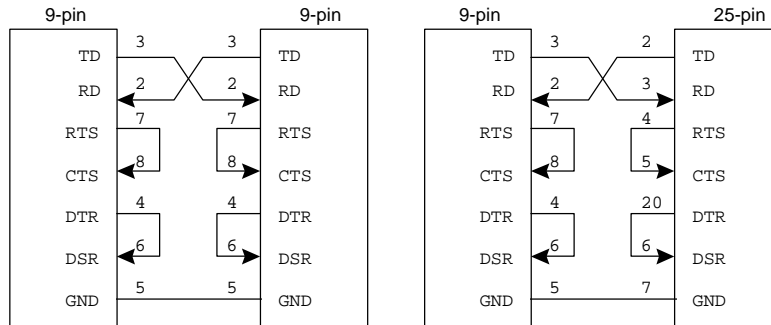

Figure 16.7 RS-232 connections with no hardware handshaking
In this form of communication it is assumed that the receiver can read the received data from the receiver buffer before another character is received. Data is sent from a TD pin connection of the transmitter and is received in the RD pin connection at the receiver. When a DTE (such as a computer) connects to another DTE, then the transmit line (TD) on one is connected to the receive (RD) of the other and vice versa. Figure 16.7 shows the connections between the nodes.